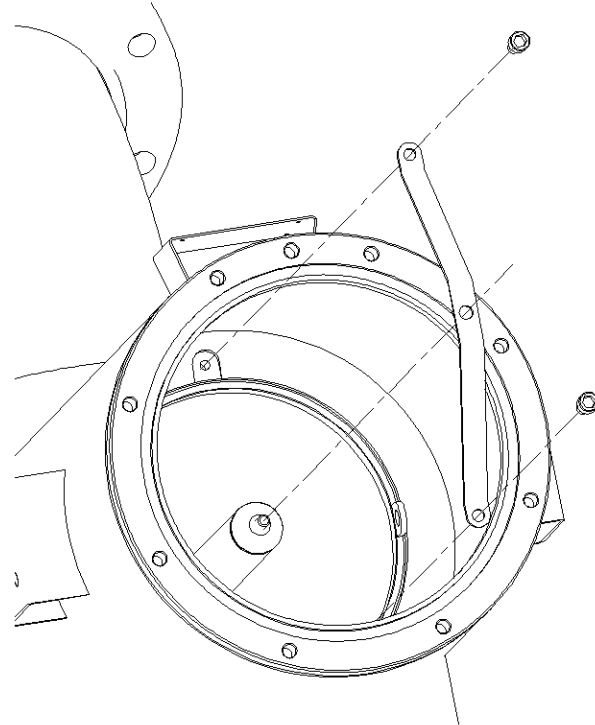

Figure 4
39. Inspect and clean or replace if necessary the eight 1/2-13 lid bolts (Figure 4, item 2) and corresponding threaded holes in the filter vessel lid flange.
Table for Figure 4 – Actuator and Element Brace